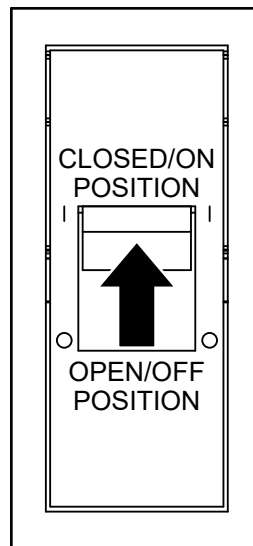

Figure 113. Main Circuit Breaker (Closed/ON)
1. Place the **main circuit breaker** in the **CLOSED (ON)** position. See Figure 113.